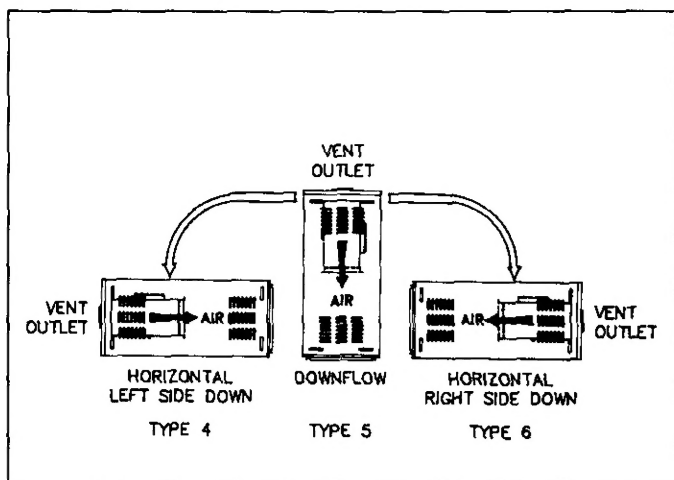

FIGURE 2
2. You may convert furnace quickly and easily from its as-shipped configuration. After conversion, you can install it as a downflow or horizontal furnace in one of three positions shown in Figure 2.
2. Furnace as-shipped position may be converted to a downflow furnace by following instructions in B. below. Once conversion is complete, furnace may be installed as a downflow furnace. Furnace may also then be installed as a horizontal on its right or left side. See Figure 2.